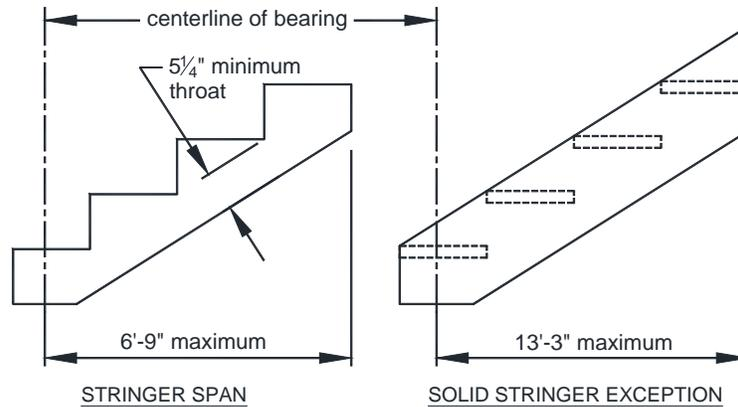

FIGURE 39: MAXIMUM STRINGER SPAN LENGTH
- Stringer span length is measured using the horizontally projected distance between the bearing at each end and shall not exceed the dimensions shown in FIGURE 39.
SOLID STRINGER EXCEPTION: Solid stringers of stairways with a width equal to 36 inches shall be permitted to have a span as shown in FIGURE 39.
- Throat size of cut stringers shall not exceed the value shown in FIGURE 39.